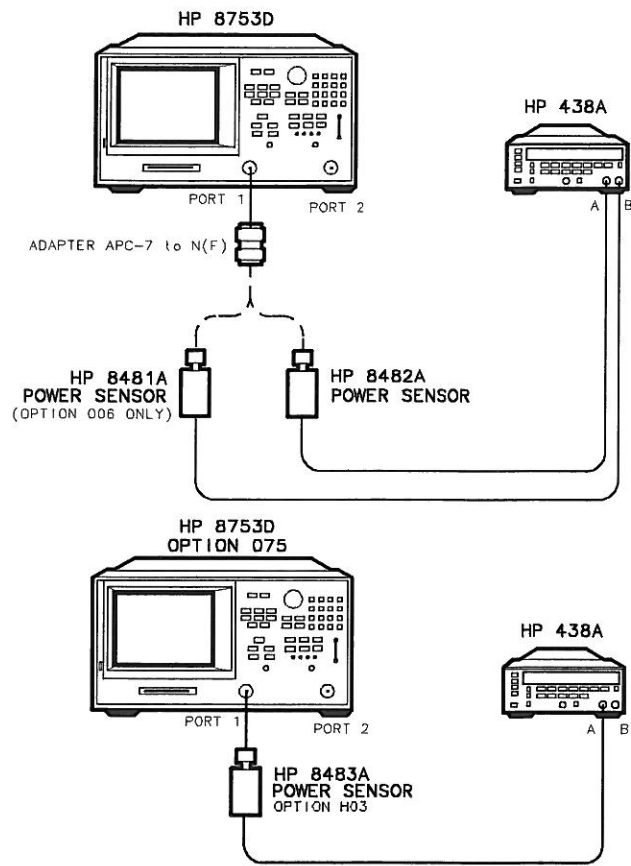

Figure 1-16. Source Output Power Accuracy Test Setup
2. Connect the equipment as shown in Figure 1-16.